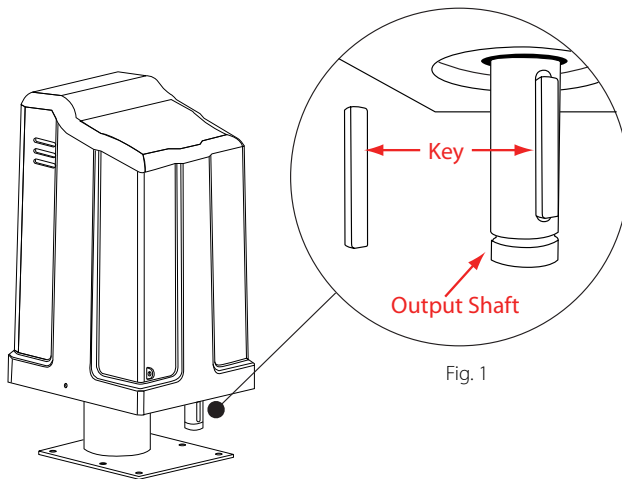

Fig. 1
1. Install the key into the output shaft. (Fig. 1)